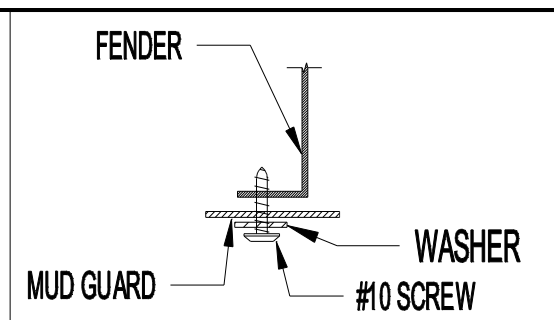

Figure 2
4. Install #10 screw and washer at locations B and C, thru mud guard and into fender (Figure 2).